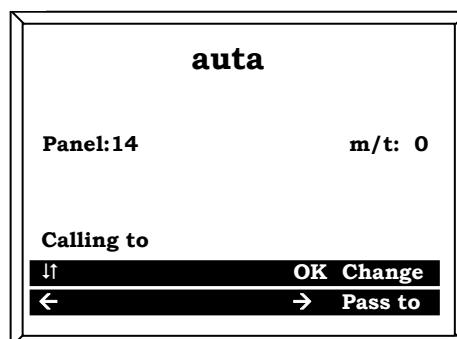

Figure 4. The screen shows a call to guard porter.
- If the SB receives this code the screen will show m/t=0 with number of the Panel the call comes from (see Figure 4). It will make the ringing tones, doesn't matter the operation mode it is configured and, after picking the handset up, the call may be readdressed as a consult (←) or as a simple call (→) to any tenant in the installation.